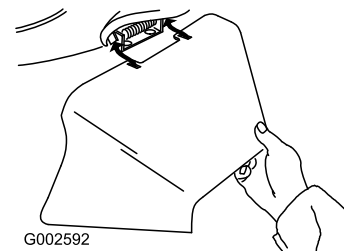

Figure 34
3. Install the side-discharge chute and close the door onto the chute (Figure 34).